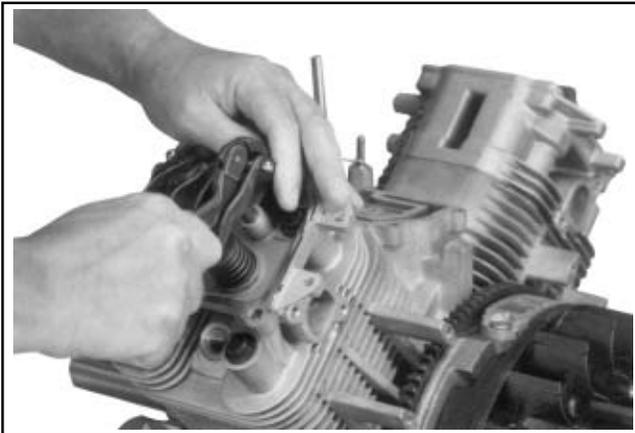

**Figure 11-46. Torquing Rocker Arm Screws.**
2. Apply grease to the contact surfaces of the rocker arms and rocker arm pivots. Install the rocker arms and rocker arm pivots on one cylinder head, and start the two hex. flange screws. See Figure 11-46.